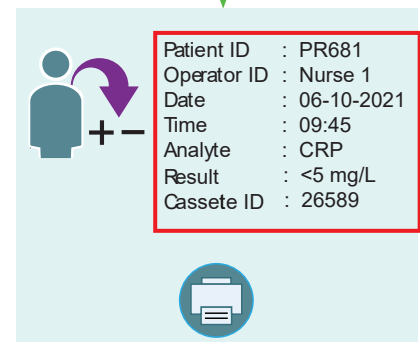

Figure 40. Retrieve a detailed view of a specific patient result
1. To retrieve a detailed view of a specific result, tap on the specific patient data. See Figure 40.
3. Tap on the Print icon. See Figure 40.